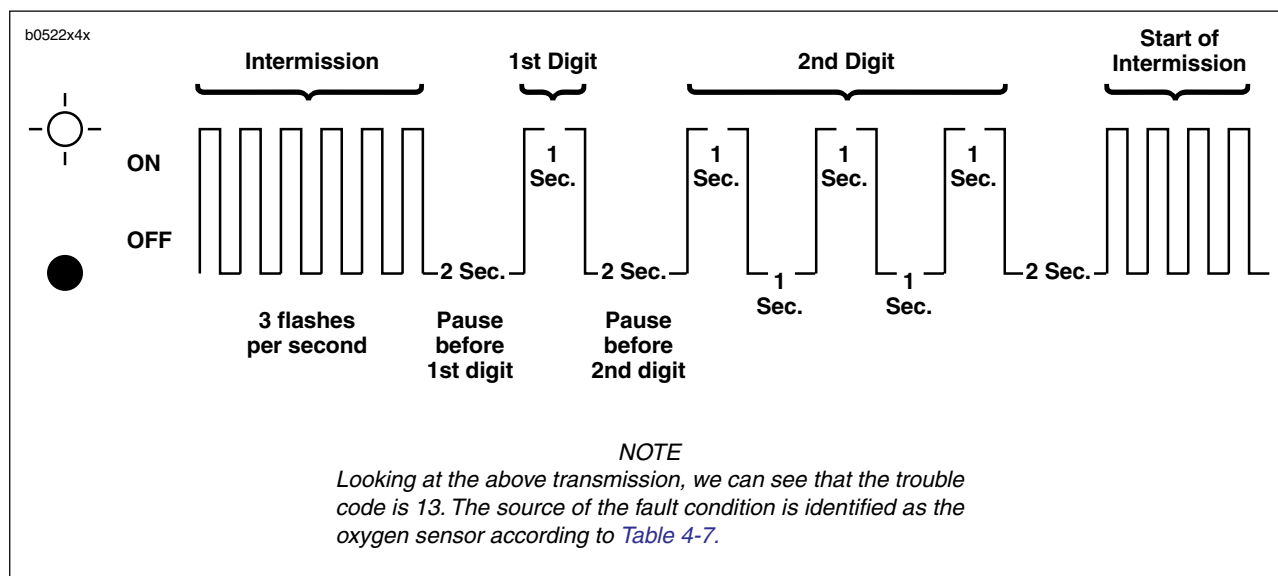

Figure 4-8. Check Engine Lamp Diagnostics
3. See Figure 4-8. All trouble codes are sent out as a series of flashes. To retrieve the first digit of the trouble code simply observe the number of times the lamp flashes.